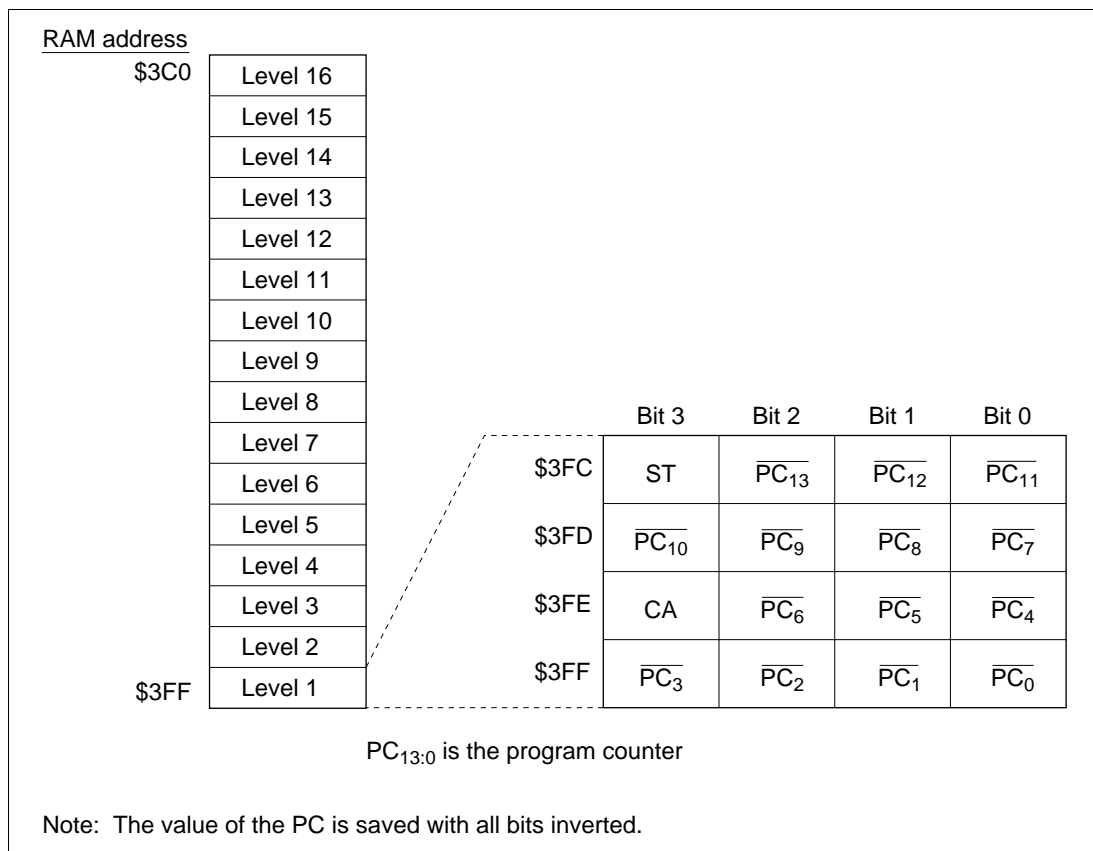

Figure 2-17 Stack Area Structure
The stack area is allocated to RAM addresses \$3C0 to \$3FF. Figure 2-17 shows the structure of the stack area. This area is used to save the program counter (PC), the status (ST), and the carry (CA) on a subroutine call (with the CAL or CALL instruction) or an interrupt. Since four digits are used for each level, up to 16 levels of subroutine calls can be used.